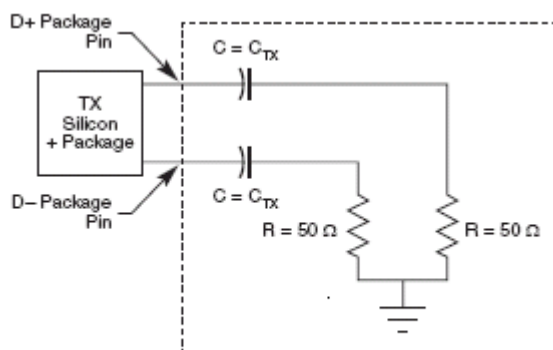

Figure 50. Compliance Test/Measurement Load
1. Specified at the measurement point into a timing and voltage compliance test load as shown in Figure 50 and measured over any 250 consecutive TX UIs.
1. Specified at the measurement point and measured over any 250 consecutive UIs. The test load in Figure 50 should be used as the RX device when taking measurements. If the clocks to the RX and TX are not derived from the same reference clock, the TX UI recovered from 3500 consecutive UI must be used as a reference for the eye diagram.
2. Specified at the measurement point into a timing and voltage compliance test load as shown in Figure 50 and measured over any 250 consecutive TX UIs.
2. Specified at the measurement point and measured over any 250 consecutive UIs. The test load in Figure 50 should be used as the RX device when taking measurements. If the clocks to the RX and TX are not derived from the same reference clock, the TX UI recovered from 3500 consecutive UI must be used as a reference for the eye diagram.